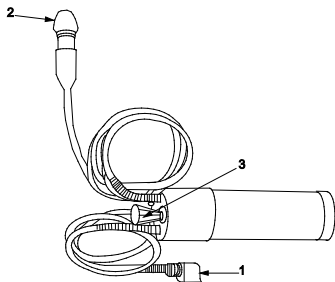

Figure 9. M51 Instrument Light.
2. Uncoil the bracket light wire and slip the bracket light (Figure 9, Item 1) dovetail into the slot on the elbow telescope.
3. Uncoil the hand light wire (Figure 9, Item 2) if you need the hand light (Figure 9, Item 3). Turn rheostat knob (Figure 9, Item 4) to ON. The hand light will remain at full brightness.
4. Turn rheostat knob (Figure 9, Item 4) to decrease brightness of the bracket light lamp.